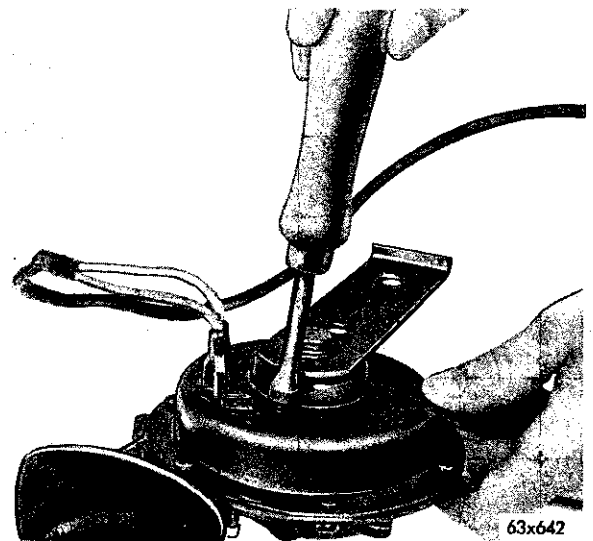

Fig. 3—Adjusting Sparton Horn
(1) Disconnect connections at each horn to determine which horn is not operating.
(2) Remove horn and bracket assembly.
(3) With a suitable spanner wrench (Fig. 3), turn the tone adjuster counter-clockwise until there is no vibration (sound).
(4) Turn the tone adjuster clockwise, approximate-